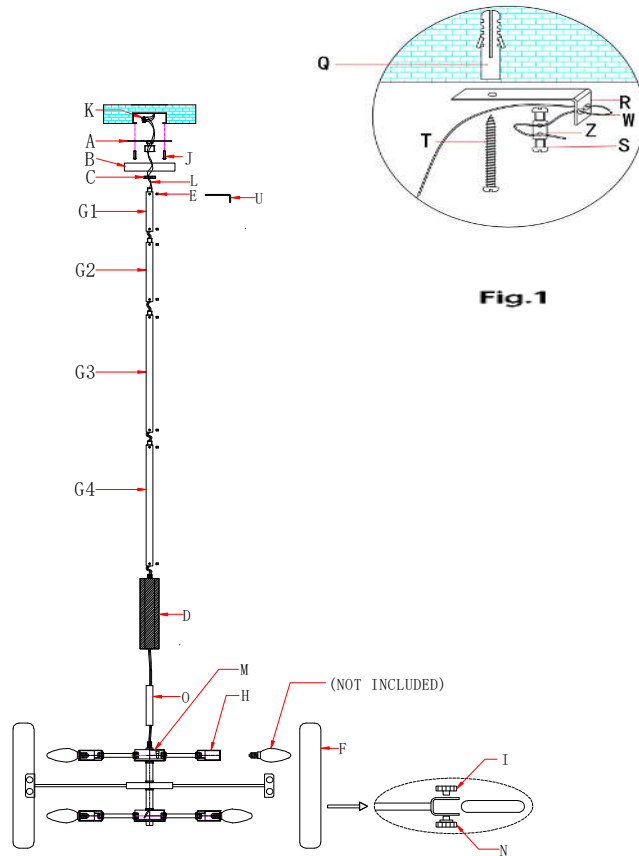

Fig.1
6. Put the collar loop (C) and canopy (B) onto the rod (G1) in sequence, then thread the power wire (L) through the mounting plate (A). Secure the rod (G1) to the nipple of the mounting plate (A) until it is tight.
7. Attach the aircraft wire (W) to a solid structure in accordance with the local building code. Position the bracket(R) at the desired location on the ceiling and mark a spot with a pencil to drill a hole. Drill one hole at the marked spot and insert the anchor(Q) into the drilled hole. Fix bracket (R) with a strengthened screw (T) by screwing it into anchor (Q). Remove the coupling (Z) from the aircraft wire (W) by loosening 2 screws (S) before installation. Pass the aircraft wire (W) through 2 holes on the bracket (R), then pass the aircraft wire (W) through 2 holes on the coupling (Z) and secure it with 2 screws (S) as shown in Fig. 1. Then, tighten the two screws (S) with a screwdriver.